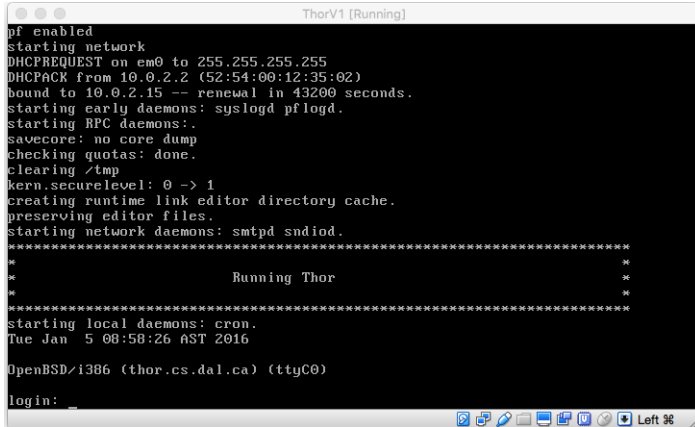

Figure 23: The Thor server is ready to go.
2. Double click on *ThorV?* in the left panel, or select it, and then click on *Start* in the top menu. You will see a window come up and text scroll by (see Figure 23).